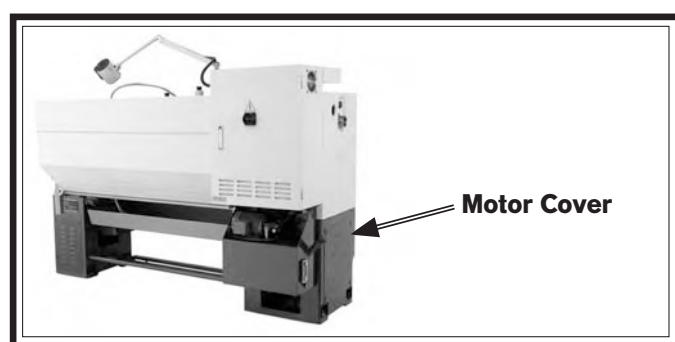

Figure 136. Location of motor cover.
2. Remove the cover shown in **Figure 136**.
3. Remove the motor cover shown in **Figure 136**.